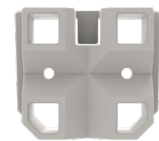

Figure 18: 64394-031
**Wall Bracket Kit 64394-031** (Figure 18) is available for mounting ORION Cellular endpoints.